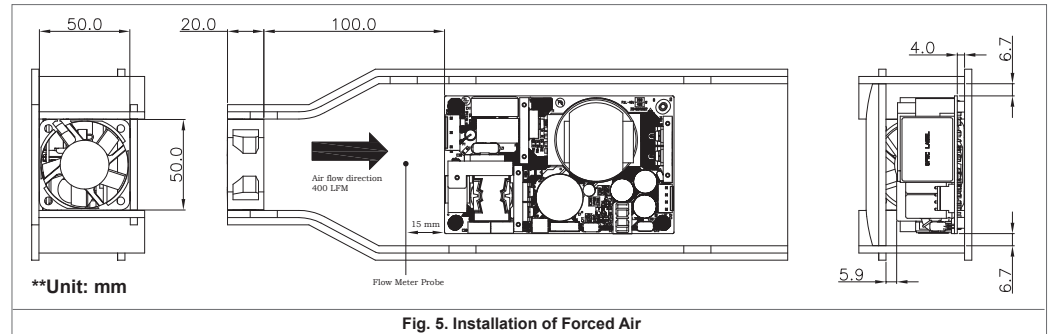

Fig. 5. Installation of Forced Air
5. Installation of Forced Air (Refer to Fig. 5)
To ensure sufficient air speed as recommended in Fig. 5 while the device is in operation.